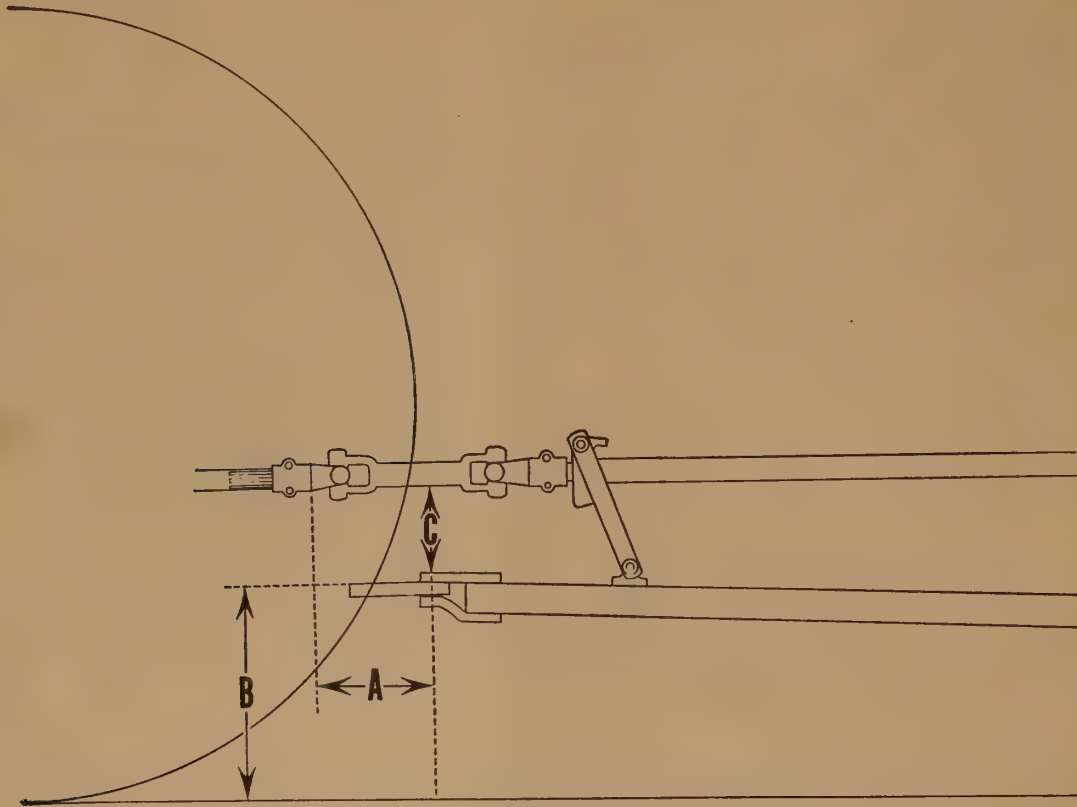

Fig. 45
1. Top of Extension drawbar should be set approximately 14" from the ground as shown at B, Fig. 45 (not including tractor lugs), where tractor take-off shaft is high enough to permit this. The tilting range of the corn binder is based on carrying the “point of hitch” somewhere near this height.
2. There should be at least 4-inch clearance vertically between the power line and hitch bolt at “point of hitch” as shown at C, Fig. 45. Otherwise Power Line will interfere with hitch when operating over uneven ground.
3. “Point of Hitch” must be far enough back so wheels will clear tractor hitch in turning. The wider the tread of the tractor or the closer the Take-Off Shaft is located to the center or to the left of center, the farther back the “point of hitch” must be placed so wheels will not strike Tractor Hitch when turning. This is also influenced by the location of the end of the Take-Off Shaft. The “point of hitch” must be approximately 14" back from rear end of Take-Off Shaft as shown at A, Fig. 45.